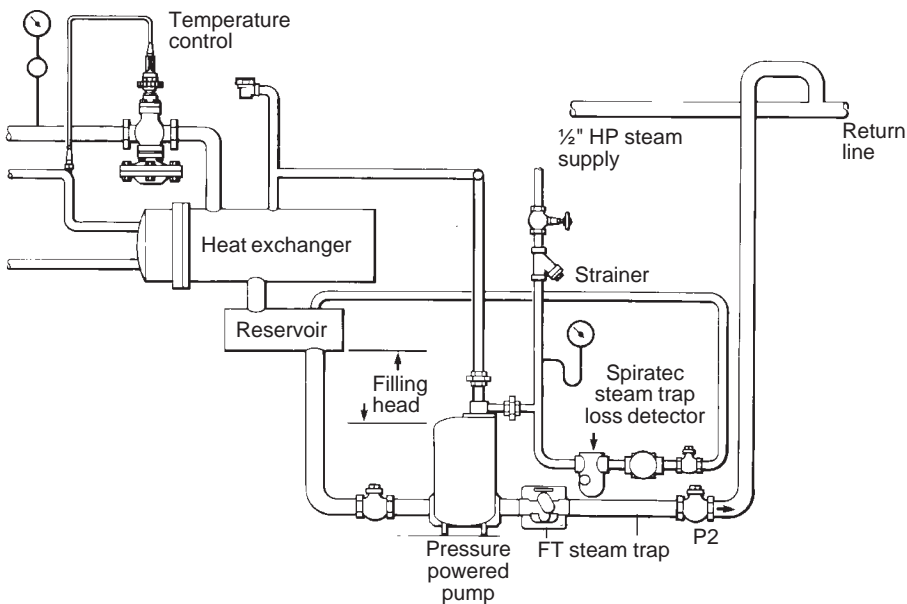

Fig. 5 Draining heat exchanger to overhead return. Pressure at PP pump outlet P2 does not always exceed pressure of supply to heat exchanger P1
3. Connect the check valves (8) and (9) to the pump, making sure that the flow through the valves is in the proper direction. For best performance, horizontal piping runs immediately ahead of the inlet check valve and after the discharge check valve should be kept to a minimum. Connect the discharge to the return main or other installation point.
6. If, at any time, the back pressure against the pump is less than the pressure in the equipment being drained, a properly sized float and thermostatic trap must be installed between the pump and discharge check valve as shown in Fig. 5.